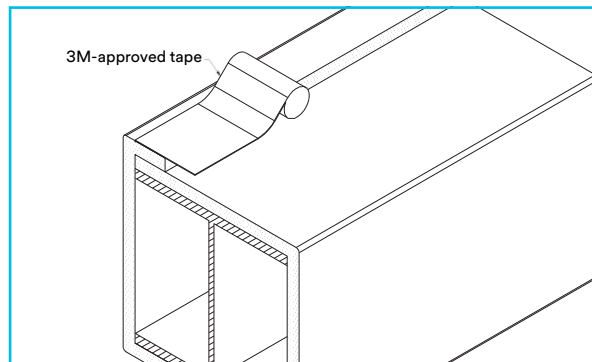

Figure 4
- 3 Tape the overlap seam (longitudinal overlap) with 3M™ Aluminum Foil Tape 437 100 mm (4 in). Centre of the tape to be approximately over the seam. Smooth the tape with a hard roller or straight edge applying enough pressure to ensure adequate adhesion of the tape to the E-Mat and to remove any air gaps (*Figure 4*).